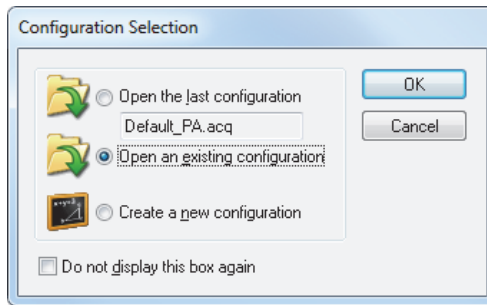

Figure 1-29 Configuration Selection dialog box
7. In the **Configuration Selection** dialog box that appears (Figure 1-29 on page 45), select one of the following setup loading options, and then click **OK**.